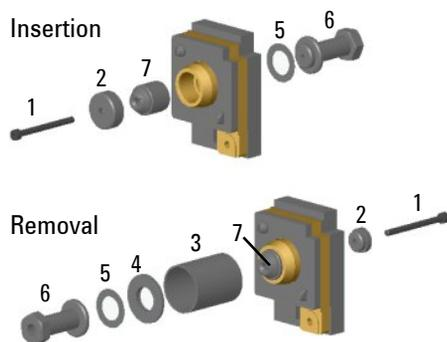

Figure 27. Electrode replacement (right hand electrode shown) Zeeman instrument
- 7** Pass the drawbolt through electrode on the right (from the outside of the furnace). Refer to Figure 27.
- 9** Place the stainless steel collar, then the PTFE washer and then the draw nut assembly on the draw bolt (refer to Figure 27). The electrode pressure plate component of the tool is not used for the removal process.